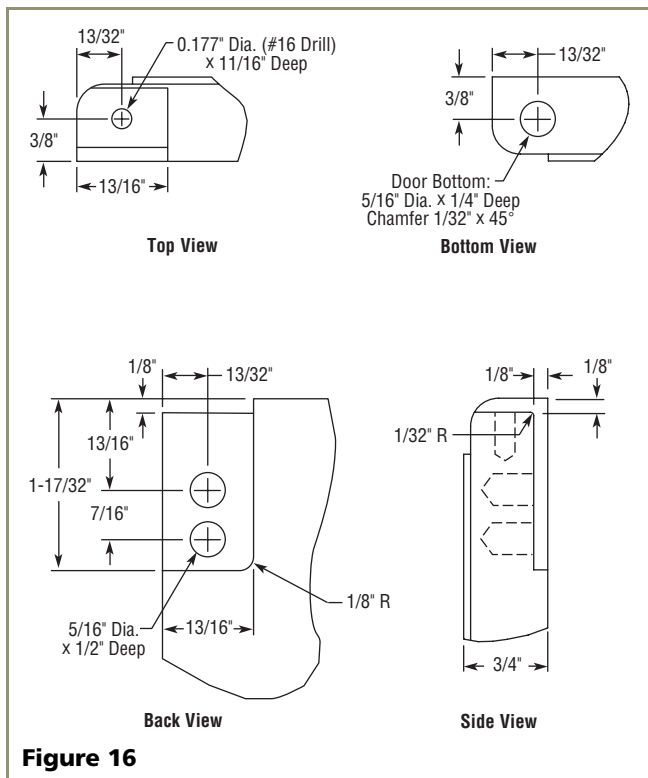

Figure 16
2. Create a relief (**Figure 15**) for pivot plate by cutting notch in top corner and coinciding back corner of overlay panel. Refer to **Figure 16** for exact specifications.
3. Drill holes for pivot plate mounts (see **Figure 16**, Back View).
4. Drill hole for upper door hinge (top of panel) (see **Figure 16**, Top View).
5. Drill hole for lower door hinge (see **Figure 16**, Bottom View).